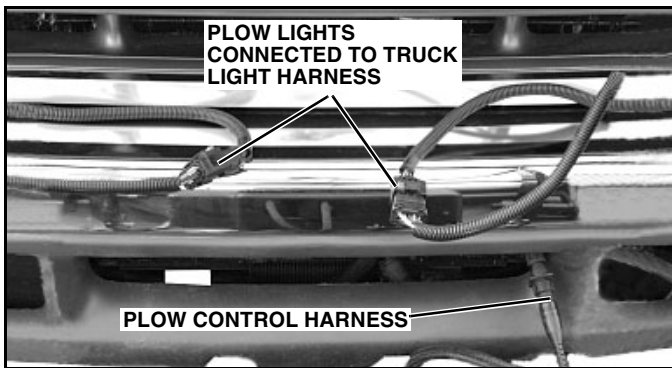

Figure 1-33
3. Turn Down Pressure OFF and disconnect the plow lights from the truck light harness. (See Figure 1-33). Disconnect the plow control harness and replace the protective cap.